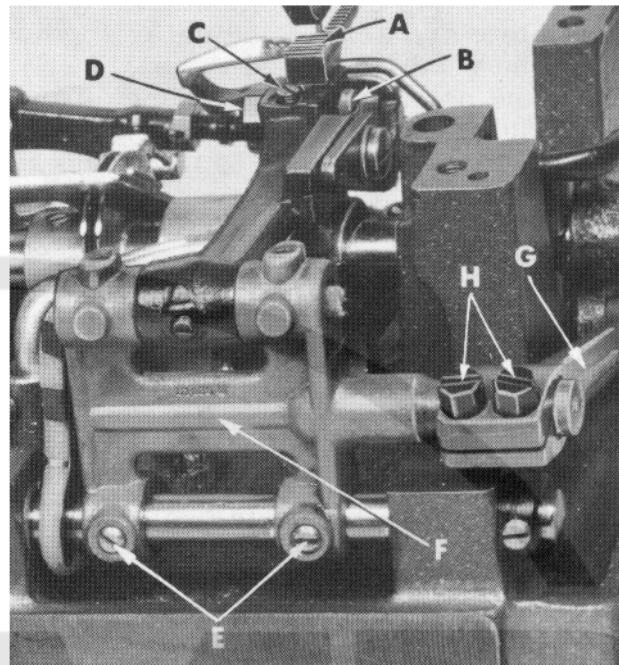

Fig. 4
Set the feed dog (A, Fig. 4) in the throat plate so there is equal clearance on all sides. See that the tips of the teeth extend 1/2 to 1 full tooth above the throat plate and are parallel with the throat plate at high point of travel. Height can be set by loosening feed dog attaching screw (B) and adjusting feed dog supporting screw (C). Parallelism can be set by loosening nut (D) and rotating feed dog holder adjusting screw (A, Fig. 5), as required and retighten nut. Side clearance can be set by loosening screws (E, Fig. 4) and moving feed rocker (F) to the right or left, as required.